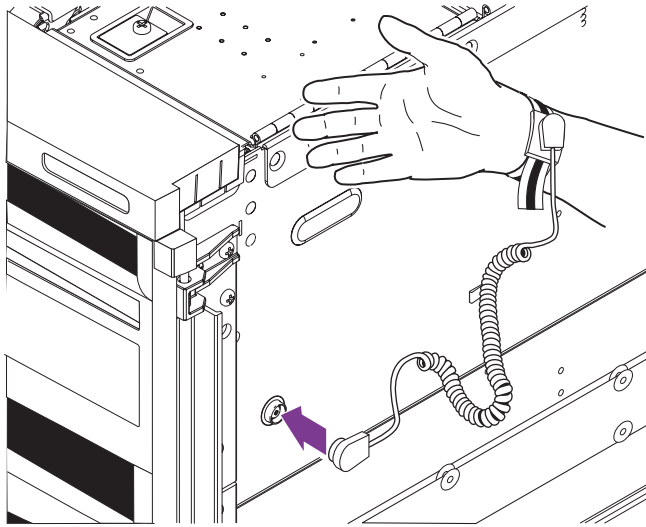

FIGURE 2-2 Attaching the Antistatic Wrist Strap—Right Side
- Right side towards the front (FIGURE 2-2)
- To attach the antistatic wrist strap to the chassis, connect the strap as shown in FIGURE 2-2.